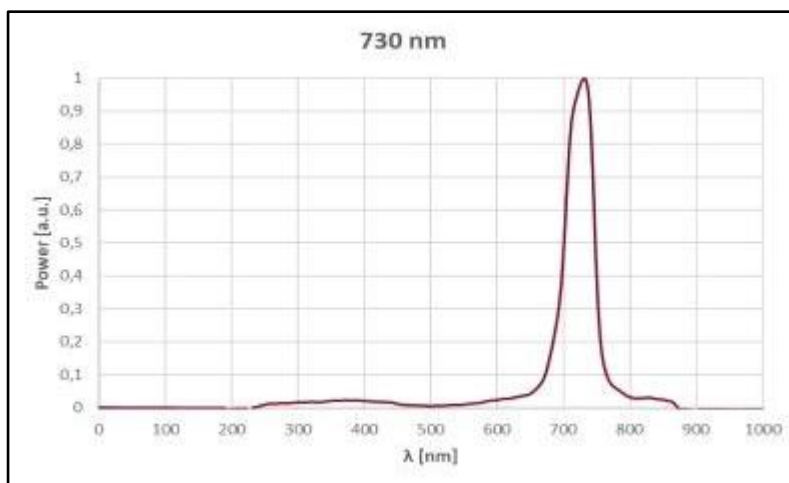

Figure 4. Spectrum view screen
- **Arrows (4)**: using the up/down arrows will increase/decrease the current percentage of the nominal output power by 1%.
- **Slide bar (5)**: it permits you to adjust the output power from 0% to 100%. Please press slightly on the right of the slide bar to control it. While dragging the slide bar, it will be in yellow, and it will change to green once a value has been selected.
- Clicking on "Spectrum view" (**6**), will show the spectral power distribution of the selected LED (see **Figure 4**).